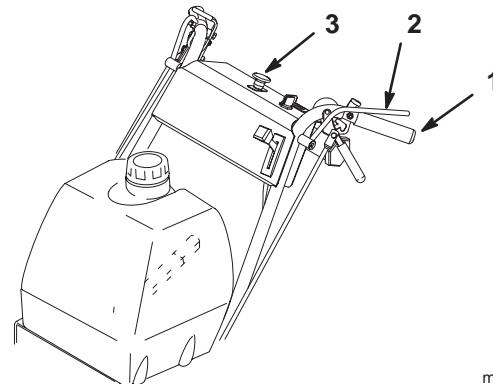

Figure 20
1. To engage blade, squeeze the Operator Presence Control (OPC) levers against handle grips (Fig. 20).
1. Release Operator Presence Control (OPC) levers to disengage blades (Fig. 20). This will also kill the engine.